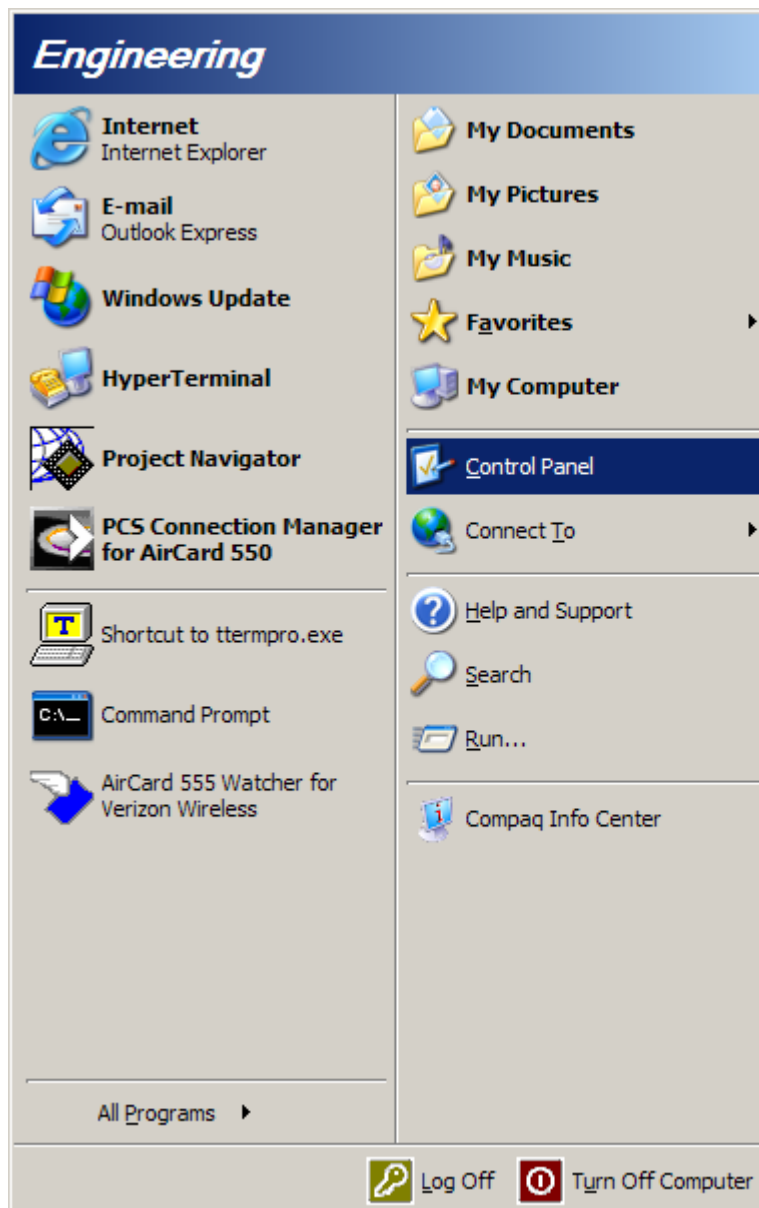

Figure 1
2. Click on "Control Panel". See Figure 1.